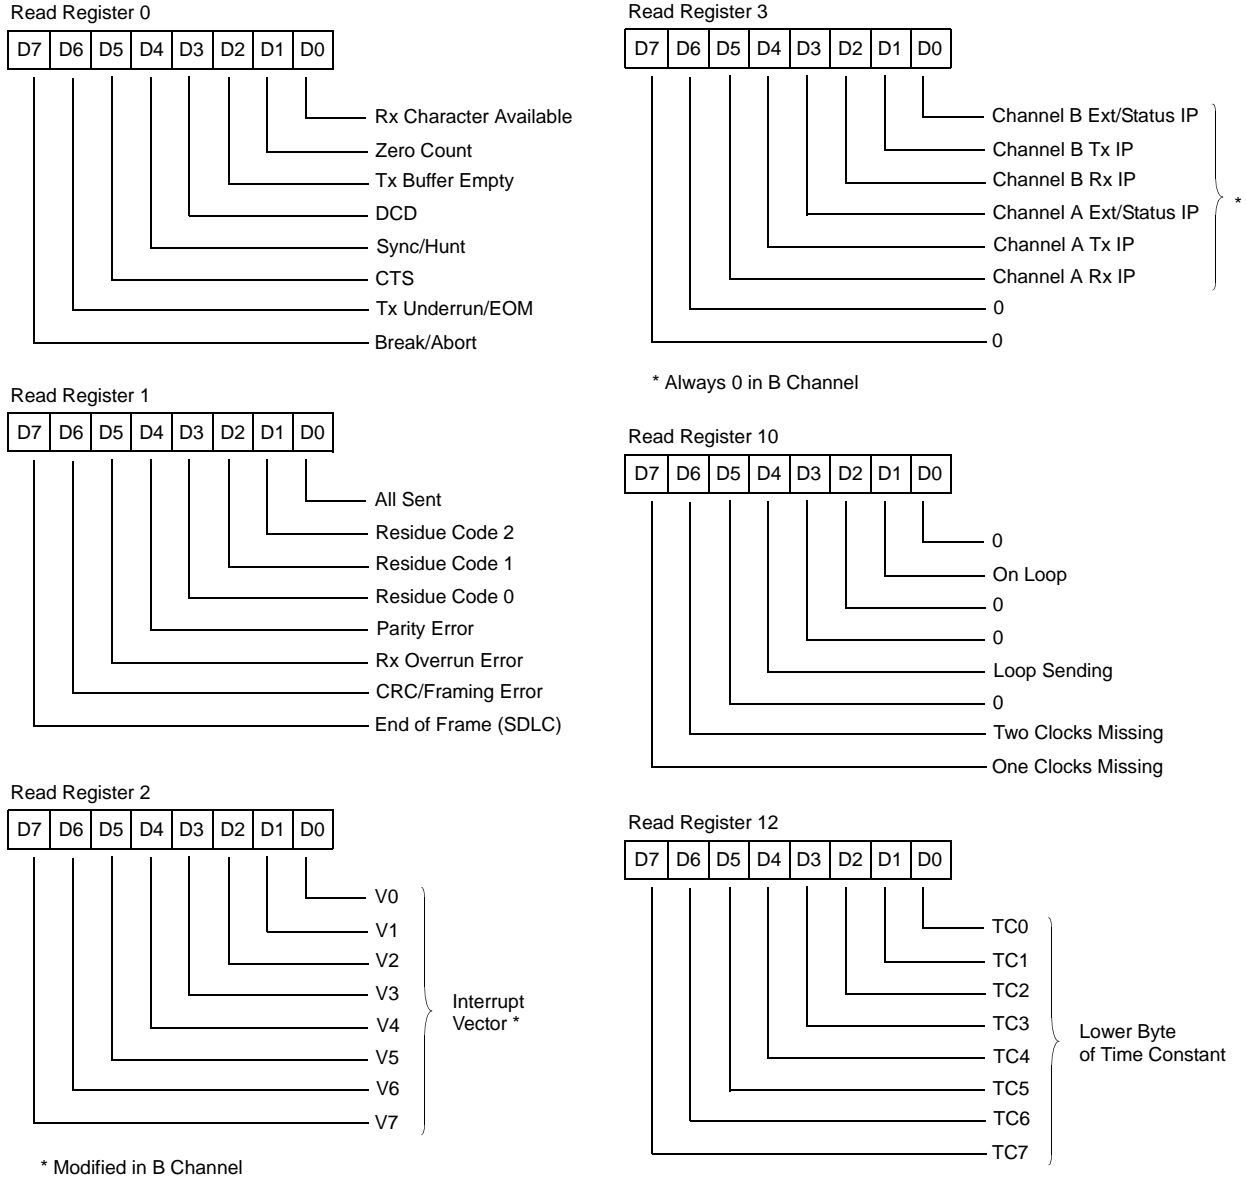

Figure 19. Read Register Bit Functions, #1 of 2
The SCC contains ten read registers (eleven, counting the receive buffer (RR8) in each channel). Four of these can be read to obtain status information (RR0, RR1, RR10, and RR15). Two registers (RR12 and RR13) are read to learn the Baud Rate Generator time constant. RR2 contains either the unmodified interrupt vector (Channel A) or the vector modified by status information (Channel B). RR3 contains the Interrupt Pending (IP) bits (Channel A only; see Figure 19). RR6 and RR7 contain the information in the SDLC Frame Status FIFO, but is only read when WR15 D2 is set (see Figures 19 and 20 ).